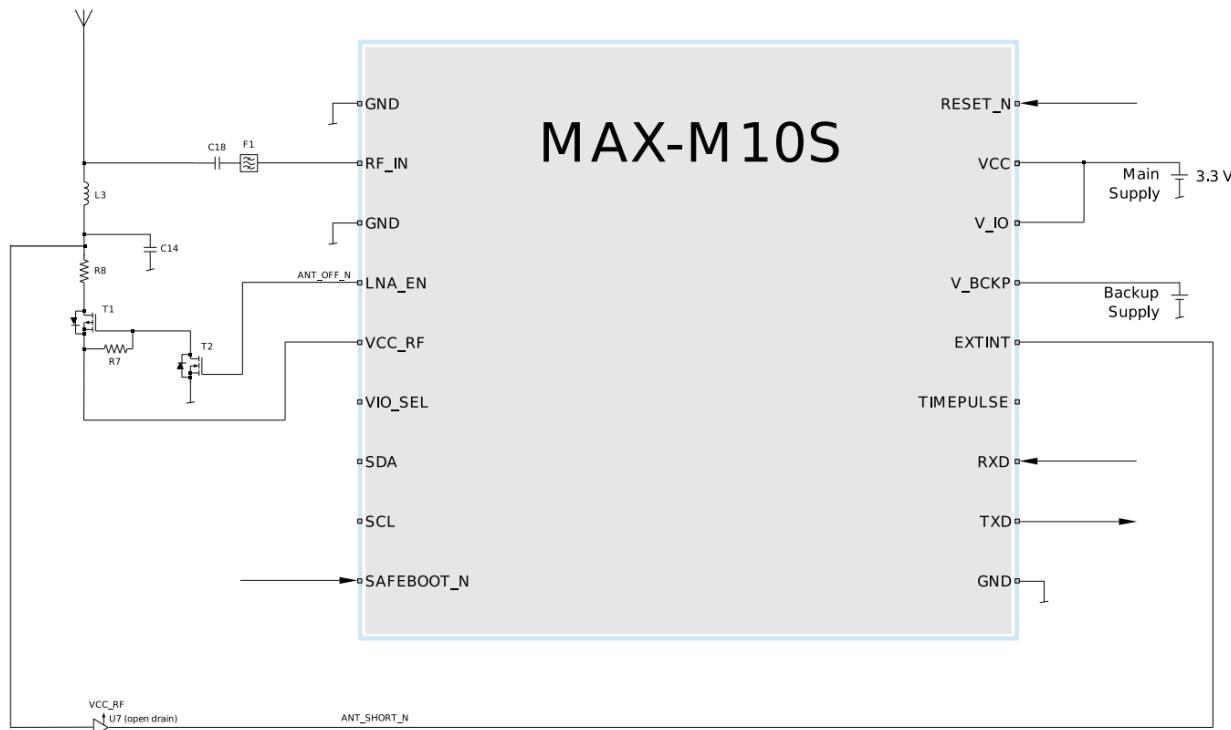

Figure 38: 2-pin antenna supervisor design
- MAX-M10S has an internal SAW filter and no additional RF front-end components are needed. However, in cellular applications, an external SAW filter can be added in front of RF_IN as shown in Figure 38, which allows an SAW-LNA-SAW RF front-end circuit for improved out-of-band immunity against RF interference from other sources.